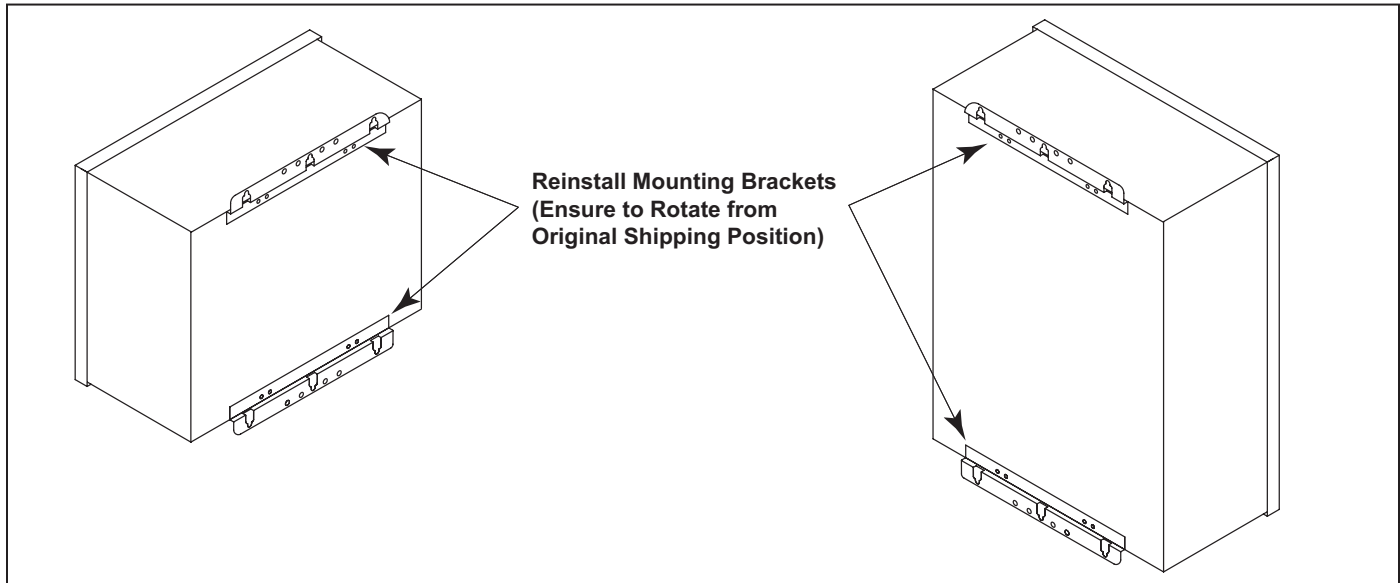

Figure 8. Reinstall Mounting Brackets on Control/Power Center
- Reinstall the mounting brackets to the top and bottom of the back of the control/power center using the four (4) screws that were removed in *Step 2*. Ensure that the brackets are rotated from the original shipping position (see Figure 8).